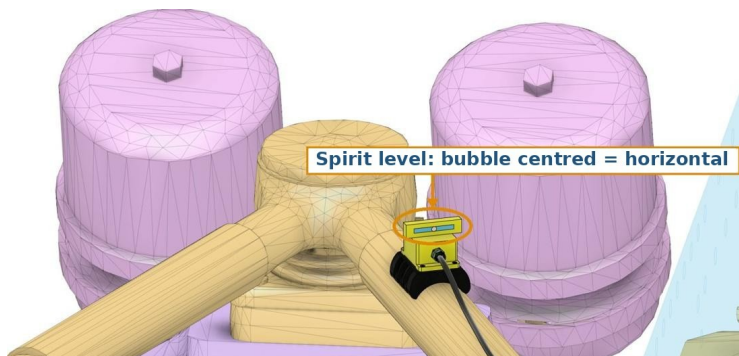

Fig. 7 – Checking the horizontal alignment with a spirit level
2. The top of the sensors must be parallel to the road surface (transverse to the vehicle – horizontal). Check with a spirit level (see Fig. 7).